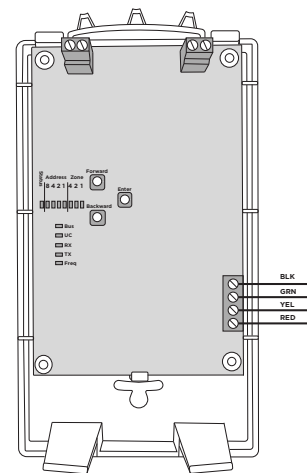

Figure 3: PCB Features and Wiring Connections
5. Insert the included antennas into the **Antenna** terminals at the top of the PCB. See Figure 3. Tighten the screws until the antennas are secured in place.
2. Connect the wires to the 738T's terminals. See Figure 3.